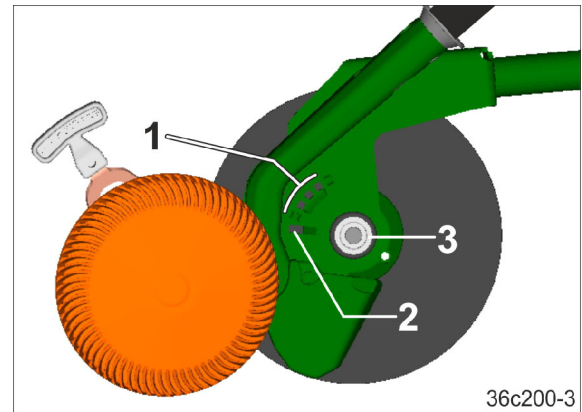

Fig. 178
1. Engage the shoulder of the lever beyond the group of holes (Fig. 178/1) into the slotted hole (Fig. 178/2).
2. Move the depth control disc/wheel in the slotted hole (Fig. 178/2) until the depth control disc/wheel is released from the locking mechanism (Fig. 178/3).
1. Insert the depth control disc/wheel on the locking mechanism (Fig. 178/3). In doing so, the shoulder engages in the slotted hole (Fig. 178/2) of the couler.
2. Move the depth control disc/wheel in the slotted hole (Fig. 178/2) until the depth control disc/wheel engages in the locking mechanism. A light knock on the centre of the disc helps to latch it into position.
3. Using the lever, pull the shoulder out of the slotted hole and insert it in the required bore (Fig. 178/1).